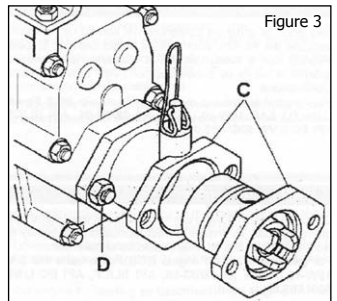
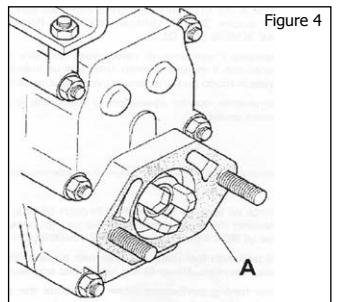

Figure 3
Figure 4
Implements are mounted to the power unit either via the quick coupling assembly (figure 3, C) or directly onto the flange (figure 4, A).
**IMPORTANT:** Always ensure that the nuts (figure 3, D) which fasten the implement or quick coupling to the power unit are well tightened.